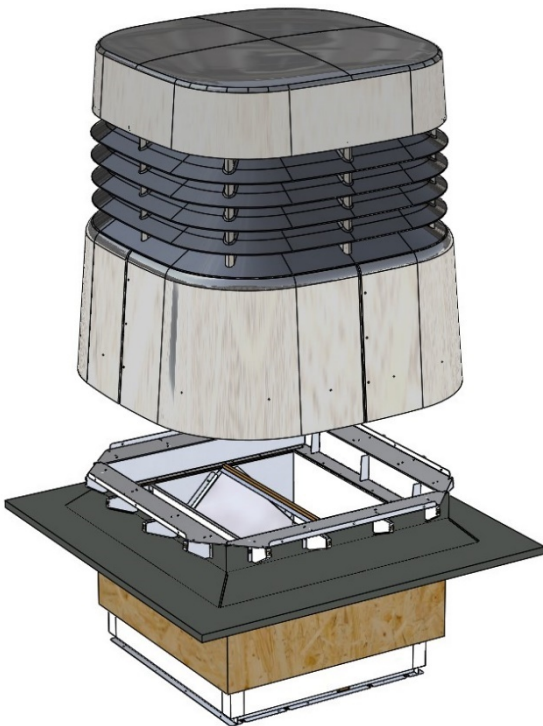

Figure 16 – Cowl position.
2. Lower the cowl terminal in to place – *see figure 16.*